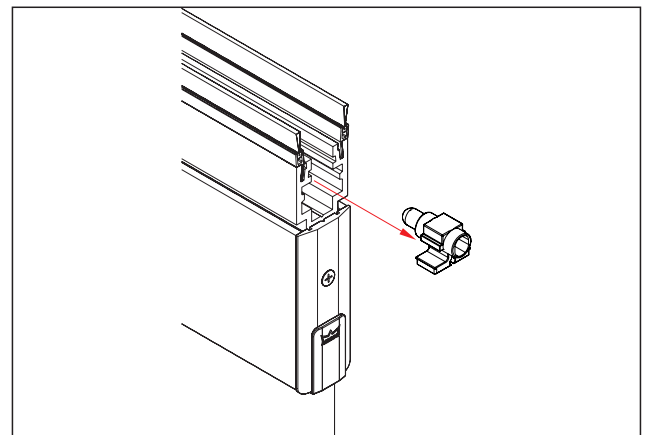

Fig. 33 Removing the combination fixing block
2. Remove the combination fixing block (Fig. 33).